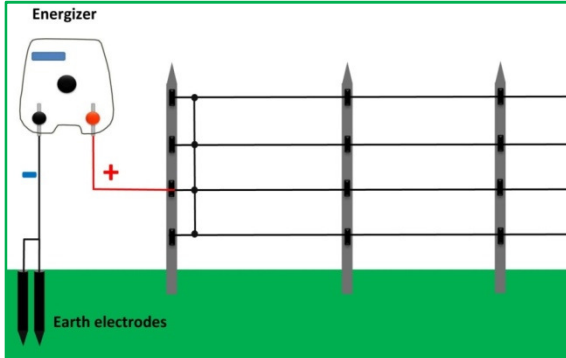

Figure 21: Earth electrode system
- **Earth electrode only system:** This system consists of one more earth electrodes driven into the ground alongside the fence and connected to the energizer's negative terminal. It is used in the situation where soils are consistently wet and have low resistance to the flow of electricity (Figure 21).